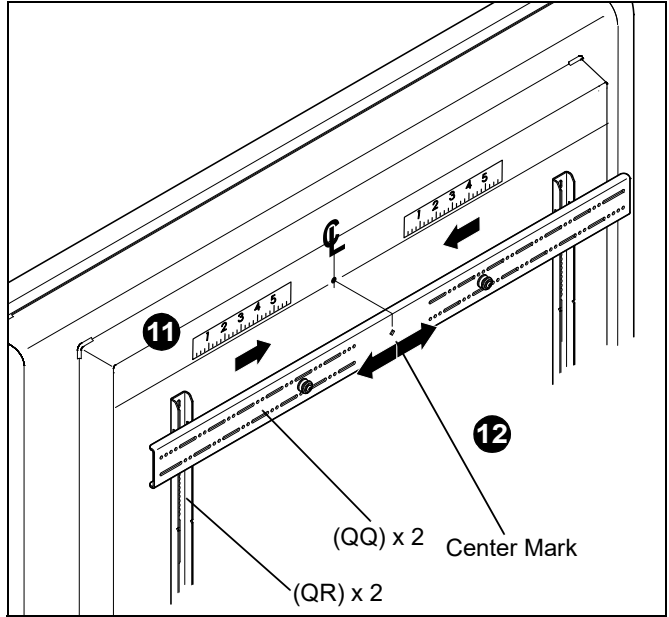
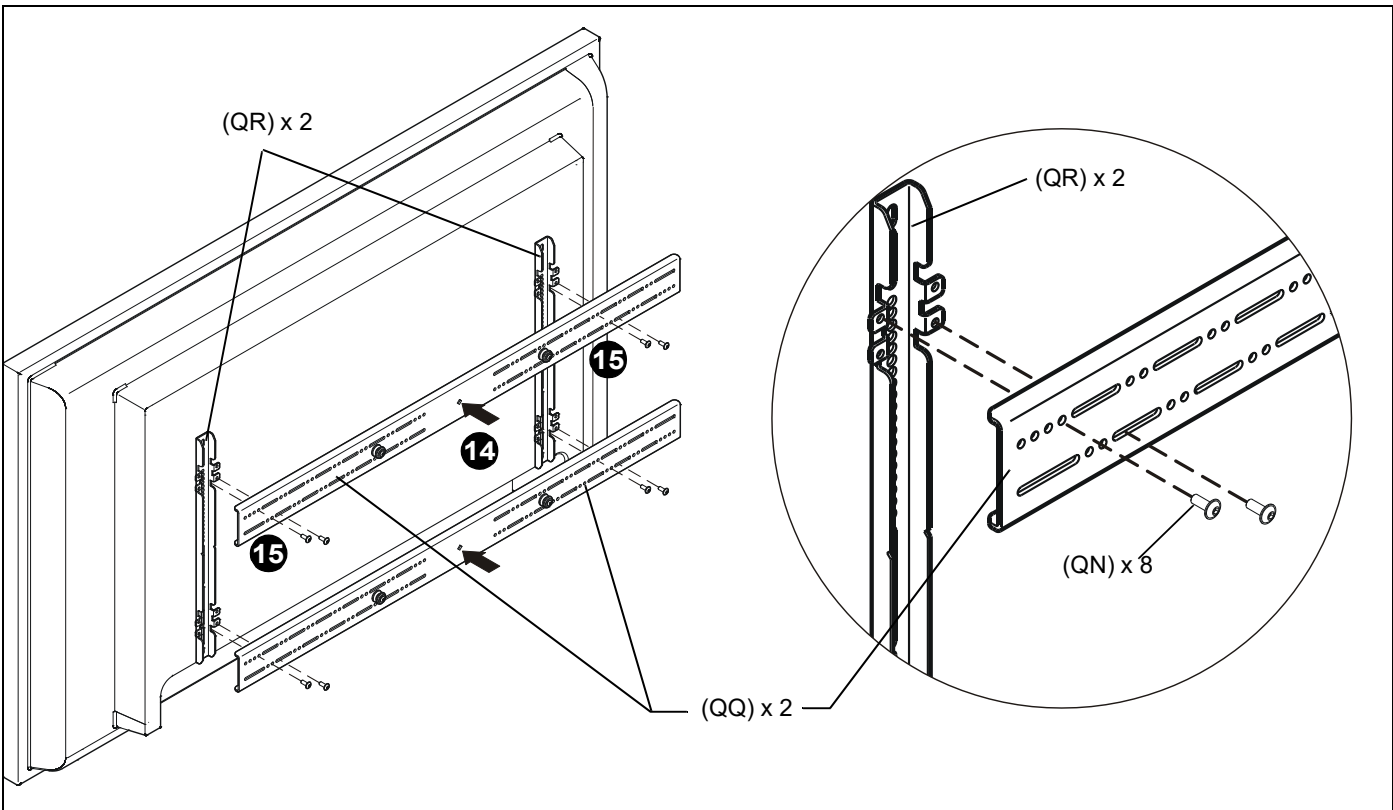

Figure 11
Figure 12
11. Determine and mark the horizontal center position between the Left and Right *TOP* mounting holes in display. (See Figure 11)
12. Determine and mark the horizontal center position between the Left and Right *BOTTOM* mounting holes in display. (See Figure 11)
13. Orient upper horizontal mounting bracket (QQ) so that flanges are facing towards display and resting in recessed area of left and right vertical mounting brackets (QR). (See Figure 11)
14. Adjust Upper horizontal mounting bracket (QQ) position until center diamond in horizontal mounting bracket (QU) aligns with mark made in Step 9, and mounting holes and slots in horizontal mounting bracket (QQ) are aligned with threaded holes in mounting tabs of left and right vertical mounting brackets (QR). (See Figure 11) and (See Figure 12)
15. Use 1/8" hex key (QP) to secure upper horizontal mounting bracket (QQ) to left and right vertical mounting brackets (QR) using four button head flanged screws (QN). (See Figure 12)
16. Repeat Steps 12 through 15 for lower horizontal mounting bracket (QQ).
IMPORTANT ! : The orientation of, and mounting holes used, when installing the lower horizontal mounting bracket must be the same as the upper horizontal mounting bracket. Vertically align upper and lower brackets by aligning holes or end of slots. (See Figure 12)
IMPORTANT ! : Whenever possible install mounting screws diagonally as shown in detail in Figure 12 below.